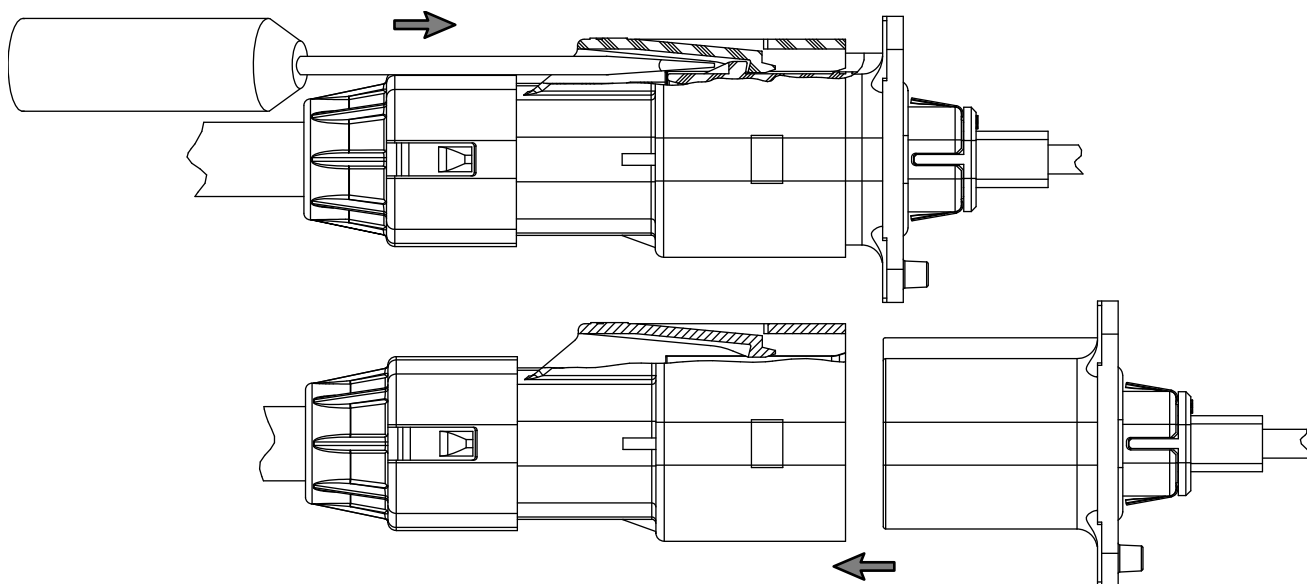

Figure 23
2. At the same time, pull the AMP+ HVA280 plug assembly and header apart as shown in Figure 23. Do NOT pull on the cable or cable seal retainer.